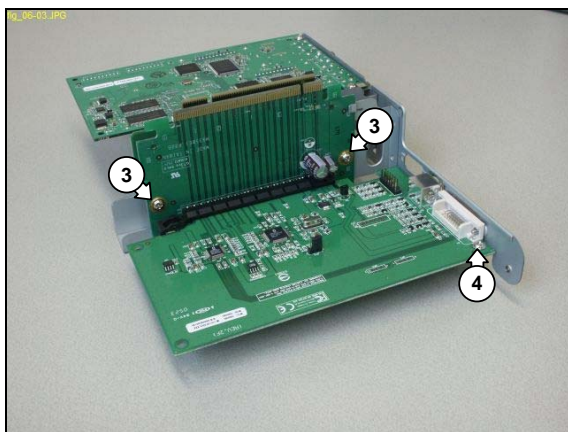

Figure 12.6-3
5. Remove the 2 mounting screws (3) from the PCI-E riser card. See Figure 12.6-3.
6. Remove the mounting screw (4) from the graphic card. See Figure 12.6-3.